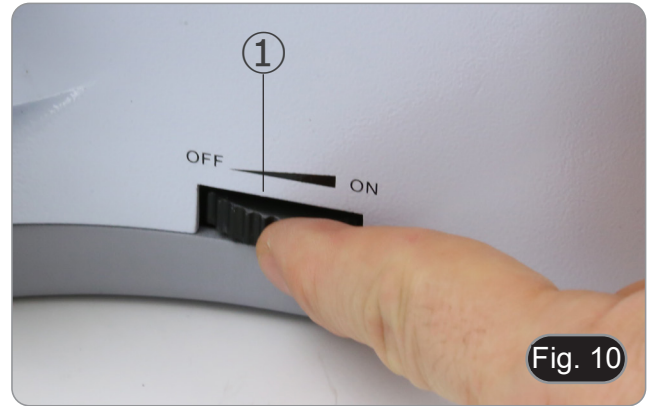

Fig. 10
Operate on the light intensity adjustment knob to turn ON / OFF the microscope and to increase / decrease the illumination voltage ①. (Fig. 10)